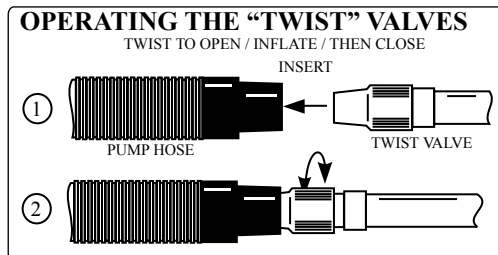

Figure 2. Inflate/Deflate Twist Valve
3. Inflate chamber 3 "floor" (using proper hose fitting). Twist valve open to inflate and twist closed when complete (*Figure 2*). Fill with air until firm (1 psi **ONLY**). **CAUTION: Do not over inflate!**